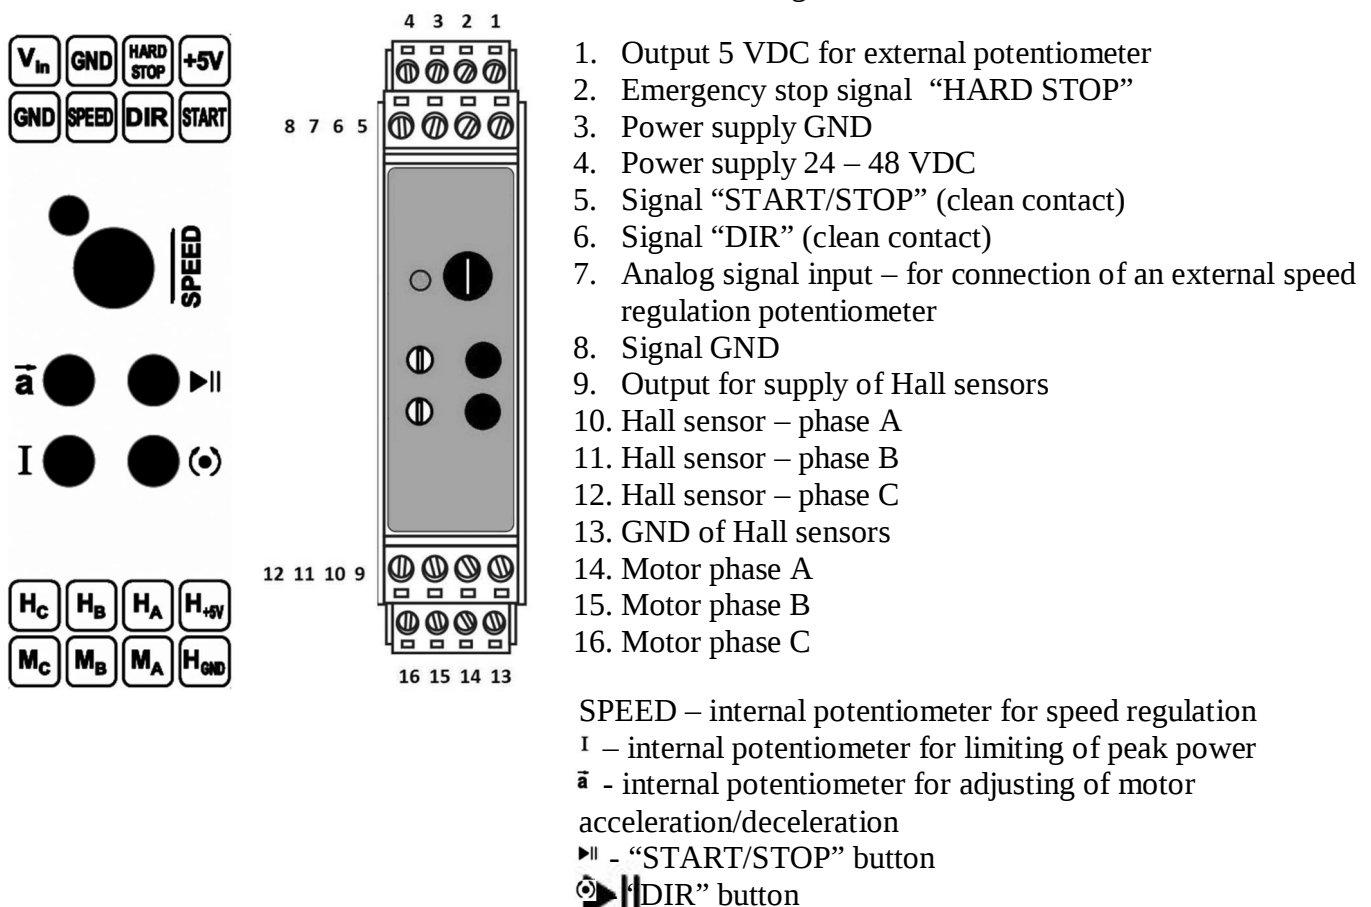

Fig. 2. Location of terminals and control elements
Connection scheme is shown on fig. 2
Location of terminals and control elements are shown on fig. 2.
1. Connect a motor to the controller according the fig. 2. Motor phases must be connected to terminals 14 – 16. Hall sensors signals must be connected to terminals 10 – 12. GND of HALL sensors must be connected to the terminal 13, supply of HALL sensors signals must be connected to terminal 9.
5. Set suitable to an application motor acceleration/deceleration by using of internal potentiometer (fig. 2). End CCW position of the potentiometer is related to the maximum acceleration time.
6. Set suitable to the motor limit of peak power (fig. 2). If the consumption peak power will be exceeded for 15 μ s, it will lead to emergency stop.